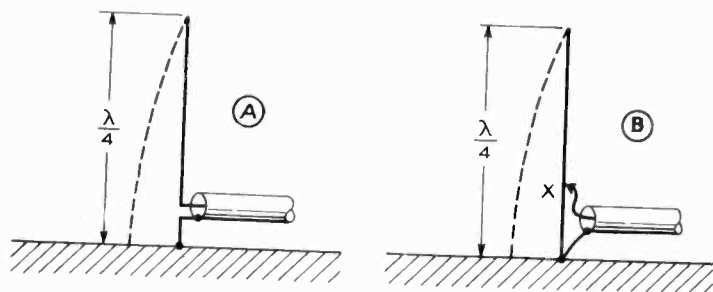
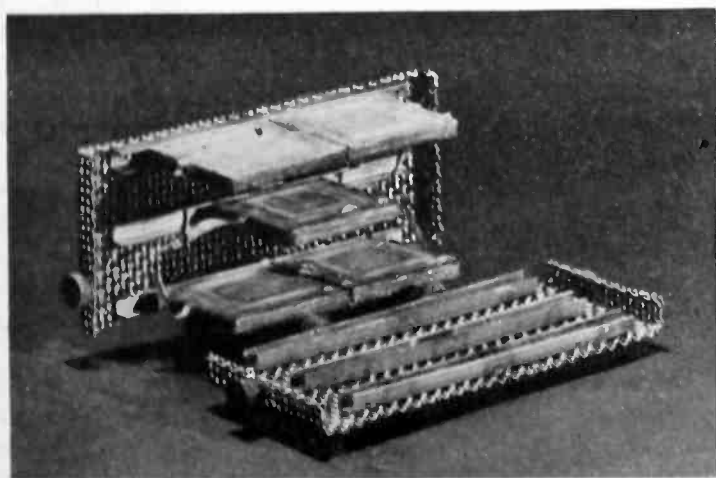
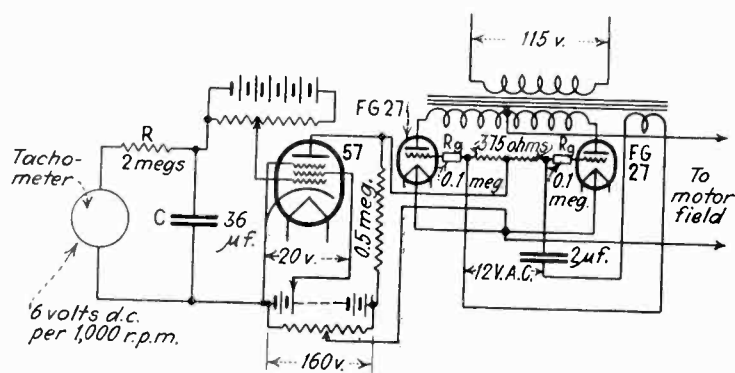

Fig. 2. A. Quarter-wave antenna terminated at ground plane. B. Terminated between ground and point X, increasing termination resistance
Fig. 3. Arrangement of the bimorph crystal elements within the case
Fig. 1—Circuit diagram of the speed regulator. The tachometer voltage controls the field current through grid-controlled rectifiers
Fig. 1. Transmission lines and antenna structures. A, B, and C are 70 ohm type concentric transmission lines. D is a half-wave rod matched to the line by means of a parallel-wire transformer section, while E is a quarter-wave rod coupled directly to a concentric feeder
Fig. 2-A illustrates an antenna one-quarter of an electrical wavelength long, located perpendicular to a conducting ground. The electrical properties of antennas of this type are investigated theoretically in standard texts, wherein it is assumed that the antenna current varies sinusoidally in magnitude along the antenna, as is indicated by dotted curves in the accompanying figures. The analysis is complicated but the conclusion is quite simple. The impedance of such an antenna, measured between its lower end and ground, is a pure resistance of approximately 35 ohms.
The antenna of Fig. 2-A may be connected to the end of a line as shown. If the characteristic impedance of the line is also approximately 35 ohms, the line will be properly terminated. This case demands the use of a concentric line because a two-wire line cannot be designed with such a low  $Z_o$ .
A method of using lines of various impedances is illustrated in Fig. 2-B. The line is terminated in shunt with a portion of the antenna and the load on the line can be
The methods illustrated in Figs. 2-A and 2-B can be used in installations wherever something approximating a conducting ground plane is present. In many cases there is no effective ground plane, and it is necessary to use a half-wave antenna as illustrated in Figs. 3-A and 3-B. A half-wave antenna may be regarded simply as two quarter-wave antennas in series, each supplying a ground for the other. The series resistance at the center is therefore  $2 \times 35$ , or 70 ohms. The connection shown in Fig. 3-A requires a concentric line with a  $Z_o$  of 70 ohms. In Fig. 3-B, the shunt connection is used and lines of various  $Z_o$  may be used by making the connections  $x$  at the proper distance either side of the center.
The simple antennas just discussed do not produce any signal in the direction of their axes. Hence, if one desires an installation to operate equally well in all horizontal directions, it is necessary to use a vertical antenna. The vertical antennas of Figs. 3-A and 3-B will work very well if the lines driving them are extended away, approximately perpendicular to the antenna, for some distance before they are brought down. This would involve a difficult mechanical problem in the case of an antenna on top of a flagpole. It appears desirable,
One method of driving half-wave antennas at the end has been used for many years in amateur and commercial installations, and is illustrated in Fig. 3-C. The end of the antenna is simply connected to one side of a two-wire line and the other side of the line is left open. In the usual case, the two-wire line leading down to the equipment has dimensions giving it a  $Z_o$  of the order of 500 ohms. At point A, therefore, the line is loaded with much too high a resistance for proper termination and standing waves exist on the line as shown in the figure. Now suppose the line were cut at B and the impedance looking toward the antenna were measured. Since the currents are large at this point, it would be expected that the impedance would be low. Actually it is probably less than 100 ohms and much too low to properly terminate the line below B. Hence the standing waves continue all the way down the line to the equipment. The line in Fig. 3-C is not a true transmission line and is more properly called a feeder.
The concentric type of feeder illustrated in Fig. 3-D is a form that can easily be made self-supporting and has been used because of its mechanical simplicity. Such feeders have, however, some serious limitations. The presence of standing waves means that a relatively high voltage exists across the line conductors every half wavelength. If the line is very long, a large part of the energy may be consumed by dielectric losses. Also, if the line is required to transmit much power the diameter must be large to prevent flashover at the high voltage points.
A number of attempts have been made to find a satisfactory method of driving an antenna from the lower end with a true transmission line, and still retain a very simple mechanical structure at the top. One form is shown in the photograph of Fig. 1-E, which is supposed to operate the same as the antenna of Fig. 2-A. The outer line conductor is a  $2\frac{1}{2}$ -inch steel conduit and the inner conductor a  $1\frac{1}{2}$ -inch duralumin tube. The inner conductor extends through an insulator at the top for a
Fig. 3. A. 70-ohm half-wave antenna terminated at center. B. Terminated by parallel feeders. Both A and B types require feeders at right-angles to antenna. C. "Zeppelin" feeder system, using parallel feeders. D. Zeppelin, using concentric feeder system
quarter wavelength to form the antenna. The three guy wires are intended to serve as the required ground plane. While this form of antenna is useful in some low power applications where the short antenna is desirable, actually the ground plane is so ineffective that large standing waves exist on the line. Electrically, it is little improvement over the half-wave type of Fig. 3-D.
An actual installation for 30.1 megacycles is shown in the photograph of Fig. 1-D. This antenna is on a 100-foot flagpole, and is 600 feet above the street. The 70-ohm concentric line is  $\frac{3}{4}$  inch in diameter, and is run up inside of the flagpole in order not to interfere with flag sheaves which are mounted on a swivel just below the antenna. The outer conductor of the line and the antenna rod are grounded to the pole. The inner line conductor is brought through a tube and insulator to the small wire forming one side of the transformer section. This installation has withstood high winds and is entirely satisfactory mechanically. It is also a very efficient radiator. The  $\frac{3}{4}$  inch line used is shown in Fig. 1-A. This size line will, when properly terminated, handle several kilowatts and the loss at 30 megacycles is only about 2db per thousand feet.
Two other types of line are also shown in Fig. 1. The  $\frac{3}{8}$  inch size (1-B) is suitable for receivers, or transmitters up to 100 watts, and has a loss at 30 megacycles of about 8 db per thousand feet. Both of these lines are insulated with low-loss ceramic bead spacers which are held in place by deforming the inner conductor slightly either side of each bead. At 1-C is shown a piece of W.E. No. 700 cable. This type is rubber insulated and, although designed for use in the broadcast band, has been found useful at ultra high frequencies when very short lengths are required. It has a loss at 30 megacycles of about 25 db per 1000 feet. All three have a  $Z_0$  of about 70 ohms.
Fig. 1. (A) The combination of a bi-directional response with a non-directional one to produce a uni-directional resultant. (B) Polar response curve of the microphone described in this article, showing the actual result obtained from the principle shown in (A)
The response of a bi-directional microphone is illustrated at B in Fig. 1-A and the response of a non-directional microphone is illustrated at N in the same figure. For a given sound wave impulse the polarity of a bi-directional microphone depends on which side of the microphone is facing the sound wave, while the polarity of a non-directional microphone is independent of direction. Thus it can be seen that a bi-directional and a non-directional microphone may be combined to have the directional characteristics shown at U in Fig. 1-A. For sound waves arriving from a direction normal to the front of the combination microphone the two outputs add, and for sound waves from the back the two outputs cancel.
A recently announced uni-directional microphone3 embodies a novel combination of small pressure-operated crystal sound cells to obtain the results illustrated in Fig. 1-A. The microphone is so arranged that the bi-directional section may be switched off for non-directional use without disturbing the remainder of the circuit.
Switch *SW* in the amplifier is provided to short circuit the bi-directional output when the microphone is to be used for non-directional pickup. Thus the UD-3 may at the will of the operator, be used as a uni-directional microphone or as a completely non-directional microphone. Curve *A* in Fig. 1-B is a polar response curve of the non-directional section and curve *B* is the uni-directional response. When used with a properly designed amplifier the response is substantially flat up to 10,000 cycles over the whole useful pickup field. In addition to its uni-directional property, the wide pickup angle of the UD-3 is a marked advantage over the restricted field of a bi-directional microphone.
In order that various lengths of cable may be used without altering the balance between outputs of the two sections the bi-directional section is made up of two pairs of cells in series parallel and thus has the same impedance as the single cell. The two pairs are placed one above the other with the non-directional cell in between. They are clamped in light metal channels, spot welded to pieces of metal screen which form a supporting frame. The cell assembly, with one side removed, is shown in Fig. 3. In the complete microphone the cell assembly is mounted in the outer case on small pads of sponge rubber.
A circuit diagram of the regulator is shown in Fig. 1. A small magneto tachometer is directly coupled to the shaft of the shunt motor and the direct current voltage from this tachometer is fed into the grid circuit of a type 57 amplifier tube. The output of the amplifier tube is put into the grid circuit of two gaseous grid-controlled rectifier tubes, connected for full wave rectification. The rectifier tubes are each supplied with a plate voltage of 500 volts, 60 cycle a.c., and the grids are each supplied with 30 volts, 60 cycle a.c., the grid voltage lagging the plate voltage by  $120^\circ$ . The output of the rectifier is used to supply the total field current for the shunt motor. Lag of the grid voltage behind plate voltage is obtained by means of a center-tapped resistance in series with a condenser, as shown in the circuit diagram.
In any automatic regulator some provision must be made to prevent hunting. In this case a resistance-capacity time delay is used. The tachometer is connected to a resistance and a condenser in series, and the voltage across the condenser is then connected in the grid circuit of the amplifier, as shown in the circuit diagram, Fig. 1. With this arrangement any change in voltage of the tachometer cannot appear immediately in the grid circuit of the amplifier.
The schematic diagram in Figure 1 is self-explanatory. Advantage is taken of the beat note of approximately 1,000 cps. supplied by a General Radio Type 581-B frequency deviation meter used to monitor continuously the transmitter carrier frequency, which is coupled to one of the buffer stages preceding the modulated R.F. amplifier. Cutting in of the tone-beat has no effect whatever on the calibration of the frequency monitor. Any good frequency deviation meter could no doubt also be used to supply the beat-note with equally satisfactory results.
Fig. 1. Complete diagram of the signal system. The station frequency deviation meter (shown in dotted lines) supplies the 1000 cycle tone for the signal. Western Union time impulses are used